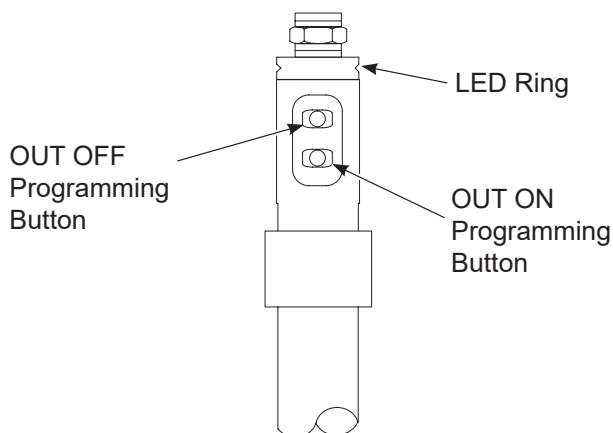

Figure 4-3 Programming the Two Button Level Sensor Probe
3. See Figure 4-3 Press the OUT OFF programming button until the LED ring slowly flashes yellow.
2. See Figure 4-3. Press the OUT ON programming button until the LED ring switches from flashing slowly to flashing quickly.